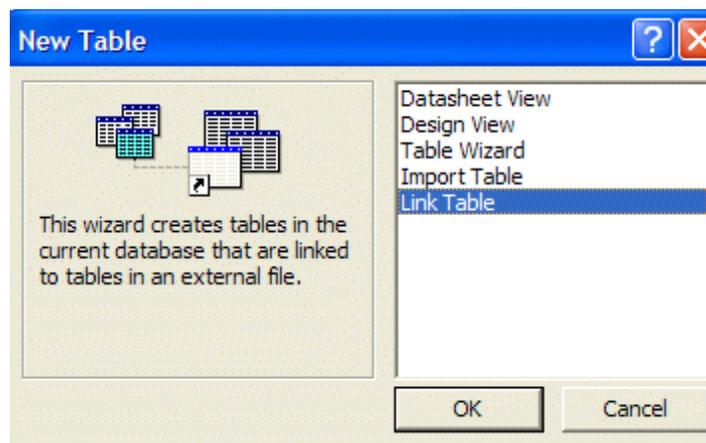

Figure 259. Link the Tables in the New Database to the Tables in the ISOTOPIC Database.
- 3) Develop a “Select” query that includes these four tables. Link as shown in Fig. 259. Use the fields identified in the table as part of the query. Be sure make the following adjustments to the query: